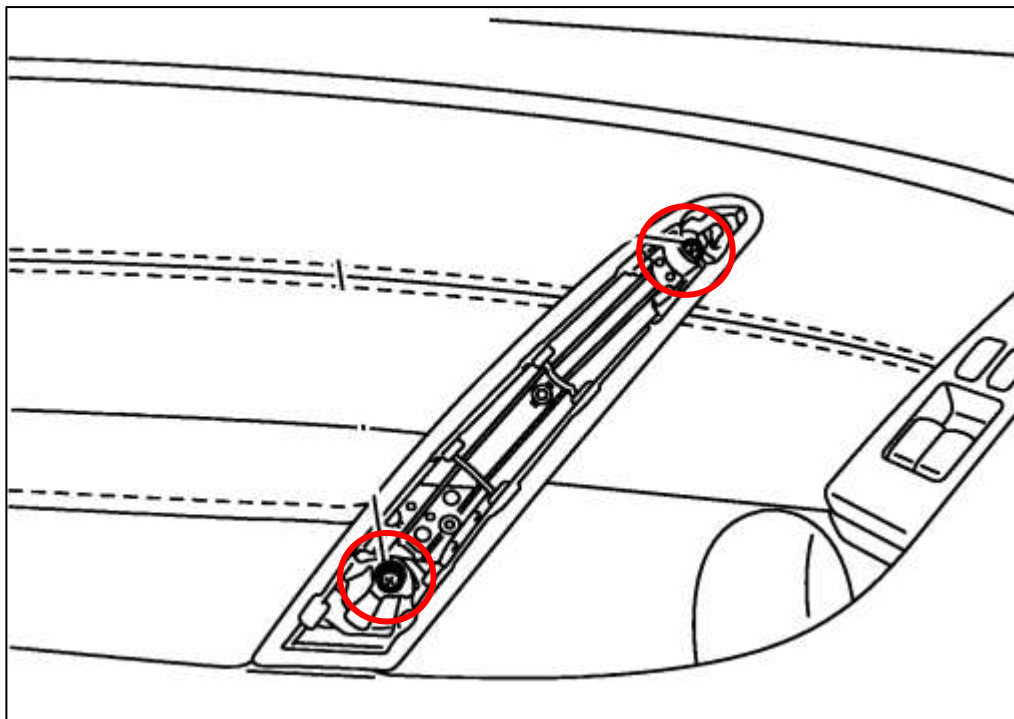

Figure 48
6. Remove the (2) two 10mm Bolts that are behind the Trim Piece. *Figure 48.*